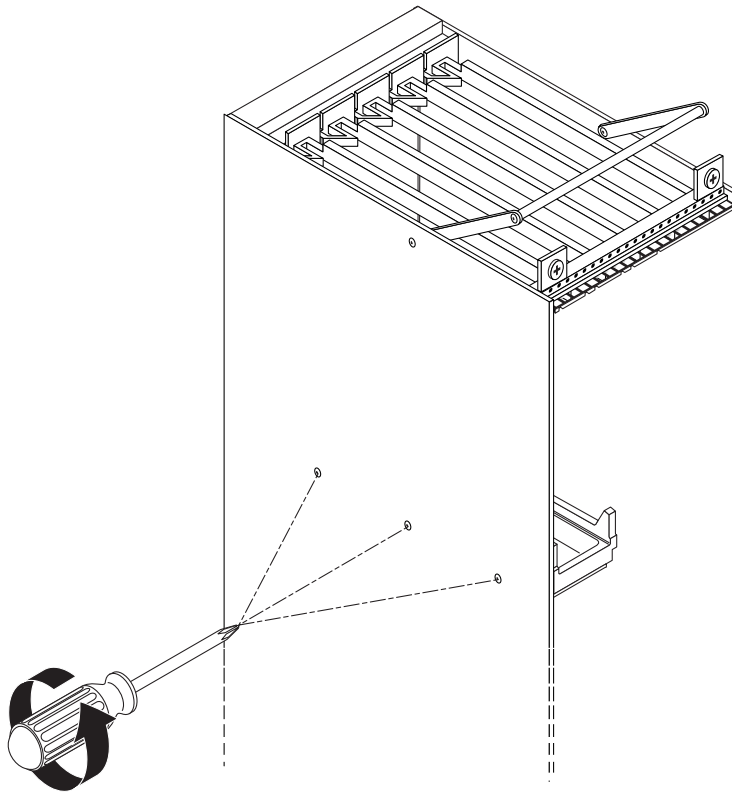

FIGURE 11-3 Removing the Disk Adapter Module Holder
5. **Facing the left side of the Netra ct 400 server, outside the server, remove the three screws that secure the disk adapter module holder to the server (FIGURE 11-3).**
- 2. Facing the left outside of the server, use the three screws to secure the disk adapter module holder to the server (FIGURE 11-3).**